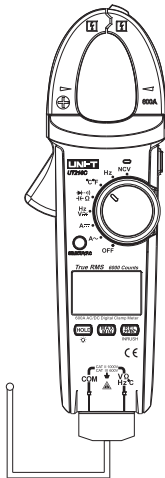

Figure 1 3
**9. Frequency (UT216B/C only) (See Figure 1 2)**
### 10. Temperature measurement (UT216C only) (see Figure 1 3)